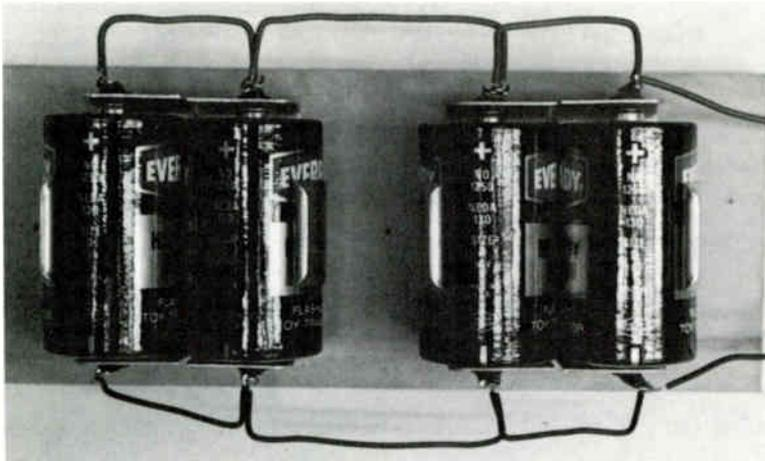

Fig. 24
(1) 1.4 V. (2) 13.4 V. (3) 3 V. (4) 9 V.
6. The batteries in Fig. 24 are connected in
(1) opposition. (2) series. (3) parallel. (4) series-parallel.
7. Assuming that each cell in Fig. 24 has a rated voltage of 1.5 V, what's the output voltage of the battery?